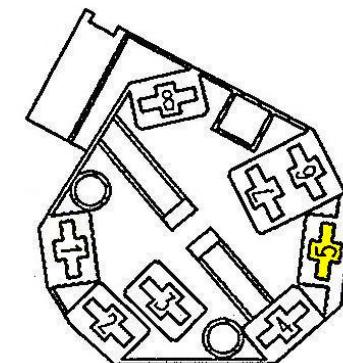

Fig.13
6. As showed in the picture beside (**R-Fig.13**), it's necessary to unite the two blue wires of each couples and solder their (soft solder) with one of the two VTS wires of the crank inhibition those are positione by the operation 2 (of this page). The result of this operation must be: a couple of blue wires soldered with a black VTS wire and the other couple of blue wires soldered with the other black VTS wire. In this way the VTS control unit is serial connected with the two blue wires those are necessary to transfer the ignition segnal from the key's block to the engine starter.
7. Protect the soft soldering using insulating tape as shown in the picture beside (**R-Fig.13**) and, using black flock tape, cover the harness of the black/violet connector in order to protect it as it was protect before start these operations.